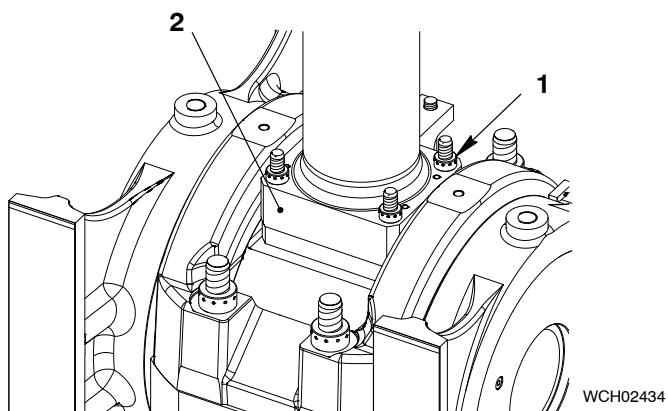

Fig. 11
- 2) Make sure that the compression shim (2, Fig. 11) is clean and has no damage.
- 7) Use the pre-tensioning jack (94315) to tighten the four round nuts (1, Fig. 11) refer to 9403-4.